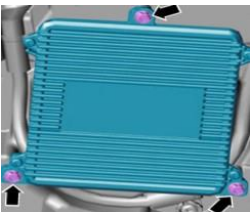

Figure 6
- Referring to Figure 6 - Press the control unit into the headlamp assembly evenly, then insert the three fixings -arrows- Torque tighten to (1.5) Nm - Connect the headlamp assembly connector